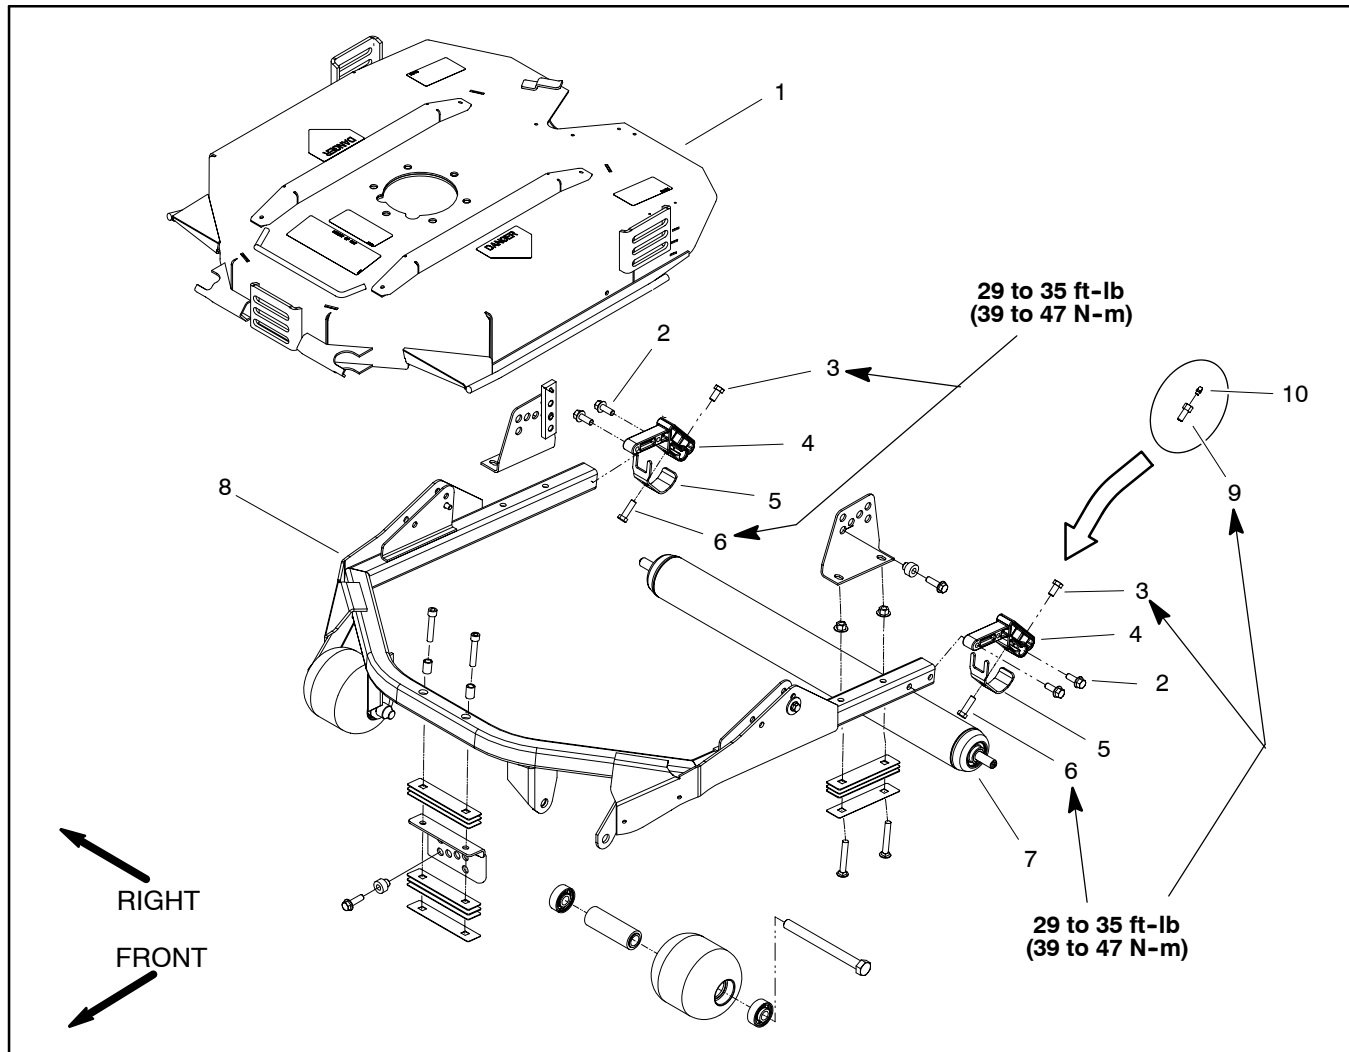

Figure 4
Removal (Fig. 4)
Installation (Fig. 4)
2. Install roller and roller mount assembly into rear of deck frame. Secure assembly to deck frame with four (4) flange head screws.
IMPORTANT: If roller design includes grease fittings in roller fasteners (items 9 and 10 in Fig. 4), make sure the grease groove in each roller mount aligns with the grease hole in each end of the roller shaft. To help align the groove and hole, there is also an alignment mark on one end of the roller shaft.